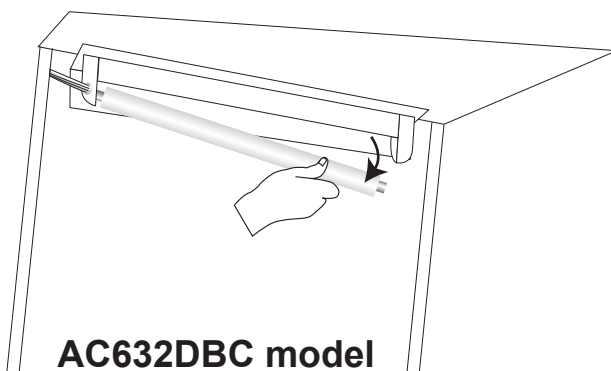

Figure 7, Fluorescent bulb replacement.
3. Using both hands, turn the bulb counter clockwise $\frac{1}{4}$ turn and remove from the light socket. See figure 7.